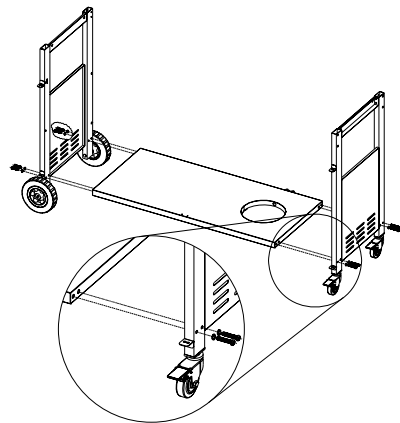

Figure 3
3. Assemble cart leg with bottom panel using (8) $1\frac{1}{4} \times 7/5$ " Phillips head screw and (8) $\frac{1}{4}$ " lock washers.(Fig.3)